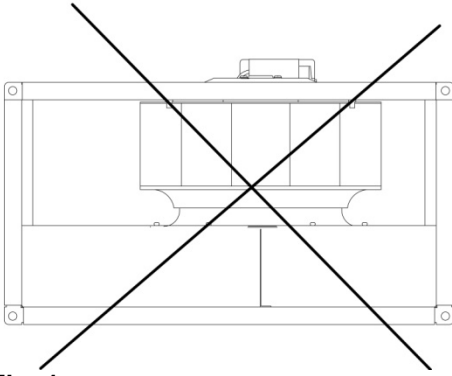
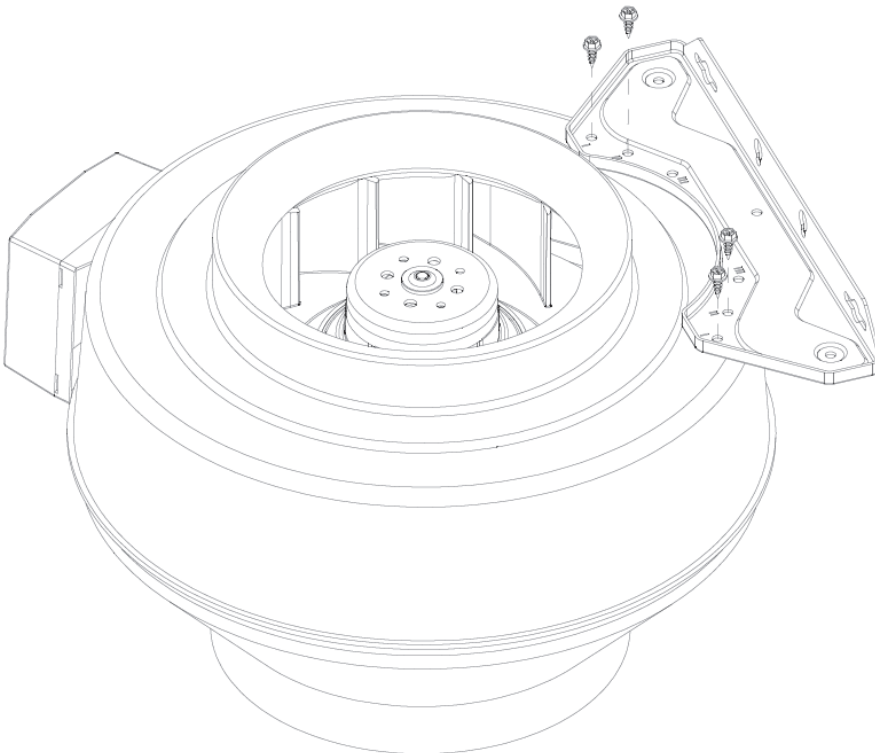

Fig. 1
Fig 3
Refer to Safety information above. Installation, electrical connection and commissioning are only to be carried out by authorised personnel and in accordance with requirements and demands. Electrical connections are made according to the wiring diagram in the terminal box, markings on terminal blocks or on cable. All 3 phase fans are delivered from factory in 400V 3~ connection. Seal any empty cable glands with dummy plugs. The K-fan must be installed with the connection box at the top of the unit ± 90 degrees. If permanent installation is carried out using cables with diameter 12-14 mm, the entrance bush must be replaced (applies to type K, KV, RVF and KVK 125/160). To preserve IP44 the RS fans must not be mounted with the connection box/motor plate upwards (**Fig.1**). Fans with thermal contacts with external leads (TK) must always be connected to external motor protection. Assemble the fan in the direction of airflow (see arrow on unit). The fan must be installed to ensure that any vibration is not transmitted via the duct system or frame of the building. (Suitable accessories such as fast clamps and diffusers are available). Make sure the assembly of the fan is firmly fixed and stable (**Fig 3**). The fan can be mounted in any direction unless stated otherwise. The fans must be installed to ensure that service and maintenance can be performed easily and safely. Disturbing noise can be reduced by installing silencers (available as an accessory). When using frequency regulation an all pole sinus filter must be mounted between motor and frequency controller (version all poles: phase to phase, phase to earth). Fans are meant for continuous use within the temperature range stated.